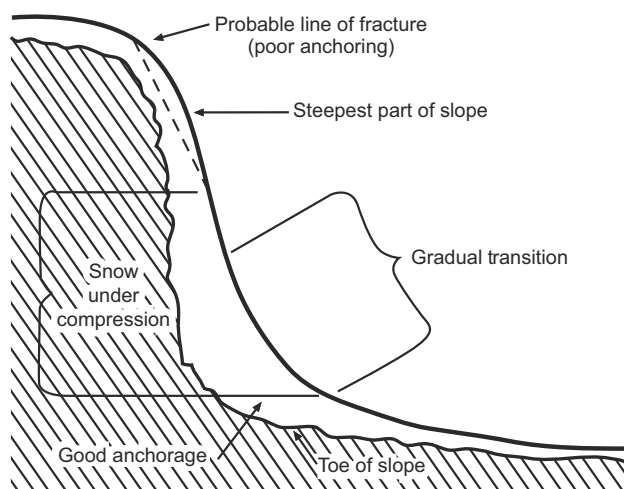

Figure 6-9. Concave Slope.
- *Concave slopes.* These slopes provide a certain amount of support through compression at the base of the hollow, but they are still capable of avalanching, especially on large slopes (see fig. 6-9).